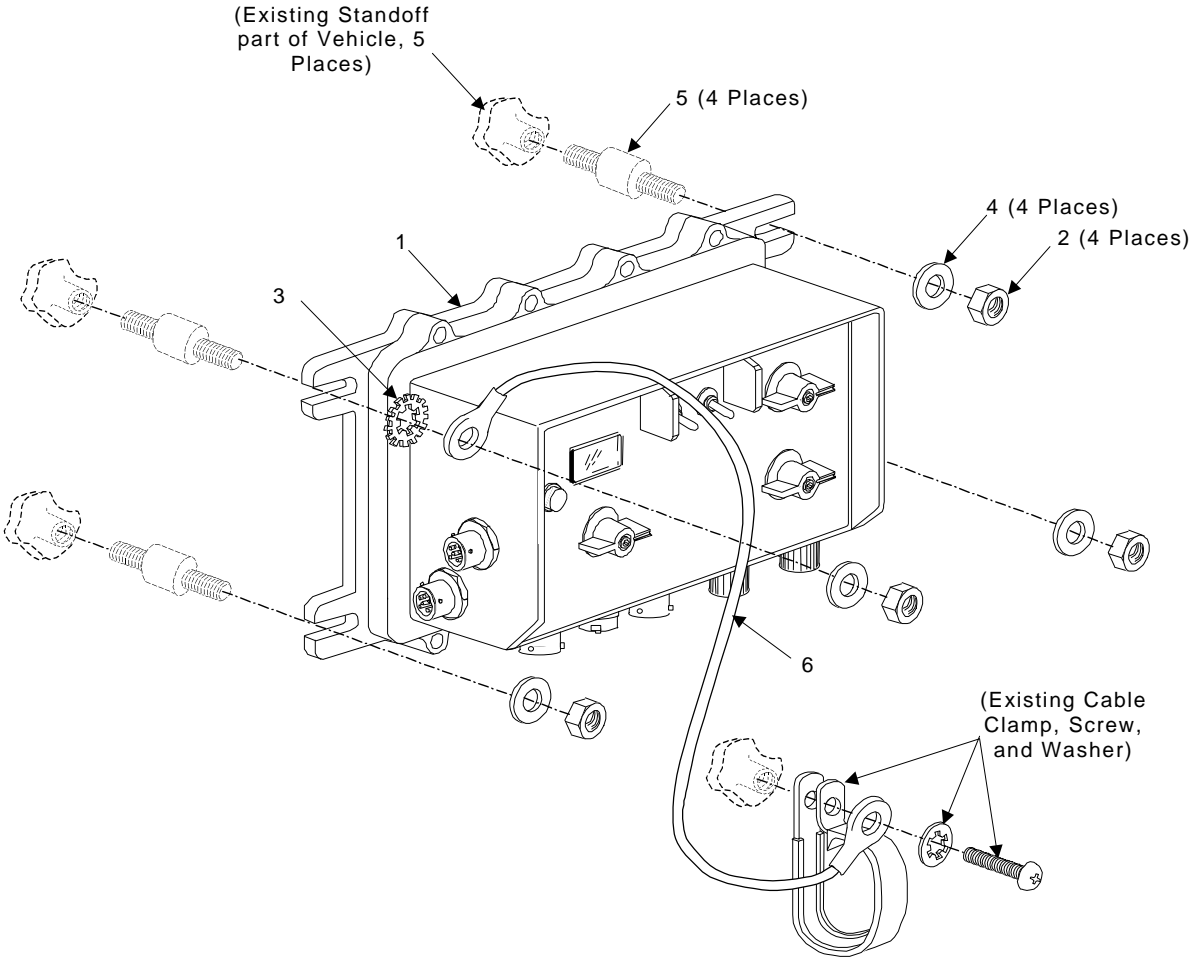

Figure 4-3. MCS Installation
- a. Install and secure the MCS to the existing standoffs on the turret wall in the sequence(s) shown in Figure 4-3 using the parts listed in Table 4-1 and the following tools: